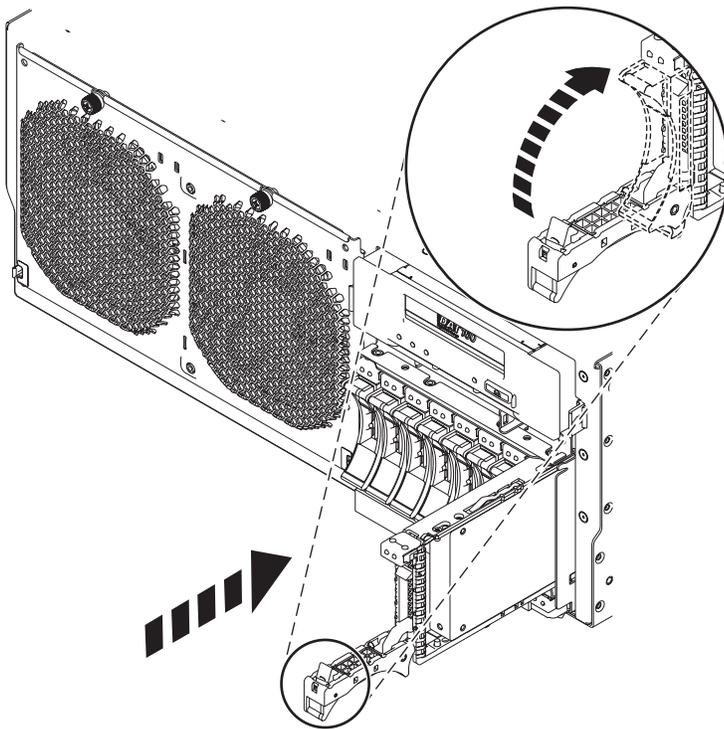

Figure 34. Replacing a disk drive or solid-state drive in the system
6. Slide the disk drive or solid-state drive all the way into the system or an expansion unit, and push the drive handle **(A)** in until it locks, as shown in Figure 34.